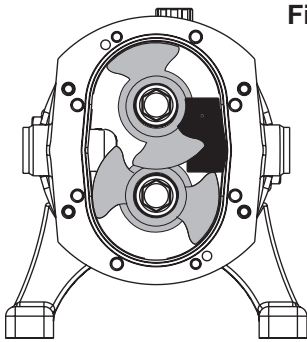

Fig. 3
21. Position the rotor locking piece in fig. 3 and 11, respectively, and tighten the bearing lock nuts (50) until no backlash can be felt in the bearing assembly.
22. Remove the rotors (35) from the shafts as described in section 4.2.
24. Check that the running torque of both drive shaft (38) and auxiliary shaft (39) is as specified in the table in section 6.1. Measure the relevant torque without lipseals. During the measuring the bearings must be lubricated with WD40. Check that the shafts can run freely.
25. If the torque is not within the specification given in section 6.1 then adjust the nuts (50) and repeat the procedure until the correct torque is obtained.
26. Bend the locking tab on the washer (49).
27. Refit circlip (51), spacing ring (52) and gear key (40) on the shafts (38,39).
28. Refit the gears (54) as described in section 4.6.1.
29. Fit the oil seal plate (10) with lipseals (42) as described in section 4.7.1 and the rotor case (9) as described in section 4.3.1.
30. Fit rotors (35) as described in section 4.2.1. Check that the stationary seal faces (D), and O-rings (C) are in place in the rotor case (9). Check seals (B,D) for debris and scratches.
31. Re-fit the can (26) as described in section 4.4.1.